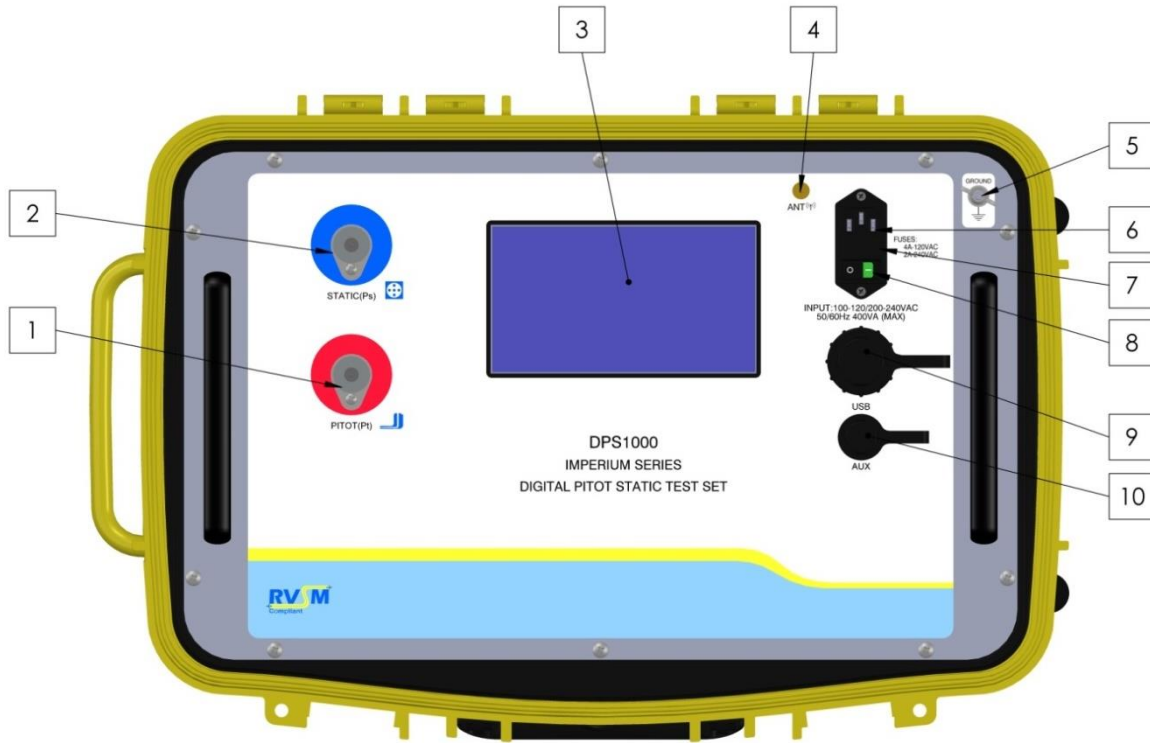

Figure 11 DPS1000 Front Panel
- B. The DPS1000 chassis may be Grounded to the aircraft or instrument under test using the Ground stud located in the upper right corner of the panel depicted as item 5 in Figure 11.
Key to Figure 11: